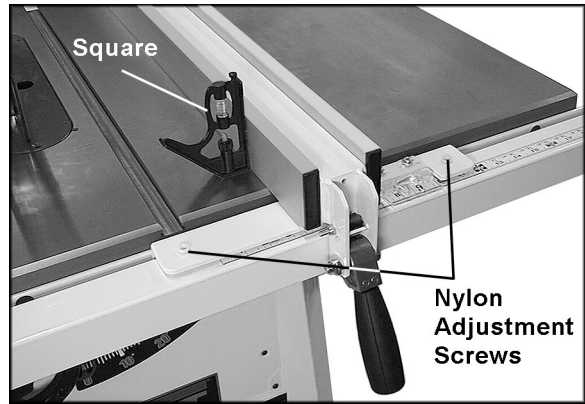

Figure 13
6. If the front of the fence needs adjusting, rotate the two nylon adjustment screws *an equal amount* (see Figure 13).
8. Place a square on table and against side of fence, as shown in Figure 13. Lock fence down with handle. The fence should be 90° to table.
9. If fence is not 90° to table, unlock the fence and rotate one of two nylon adjustment screws (clockwise will raise that side of the fence assembly, counterclockwise will lower). See Figure 13. Lock fence and check adjustment again. Continue to adjust as needed.